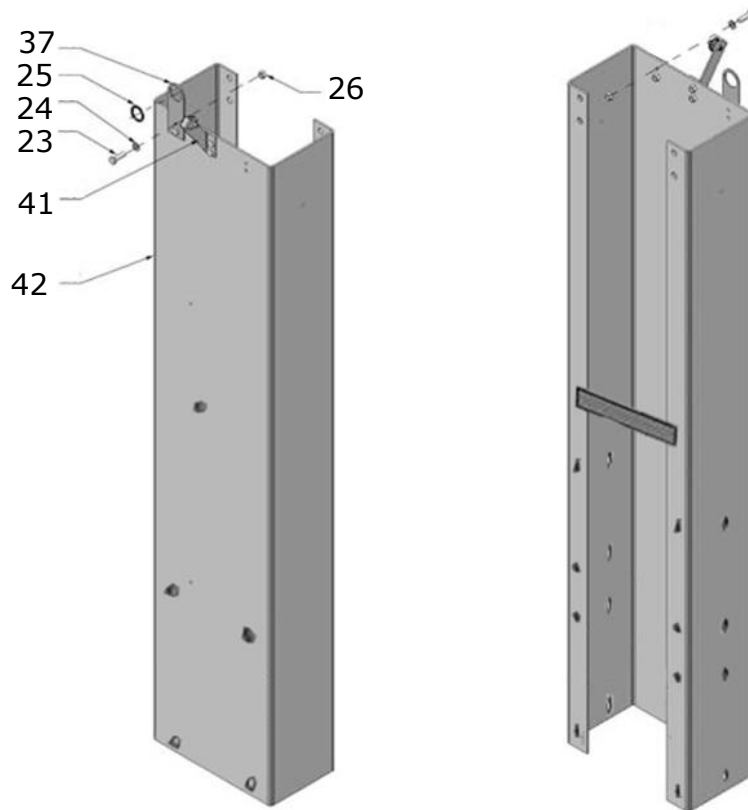

Fig. 15
D. Install parts of extension columns (See Fig. 15).